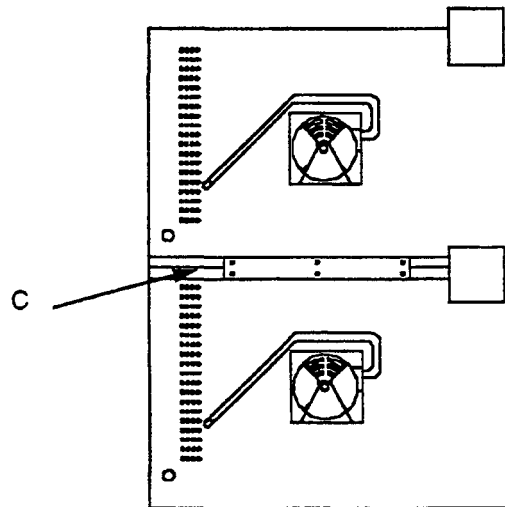

FIGURE 10
7. Place tie bracket, item "C" (P/N 1175085) on rear of unit. Line up holes in the tie bracket with holes in rear of unit. Refer to Figure 10. Reinsert the six screws taken out in Step 6 (Items "A" and "B").